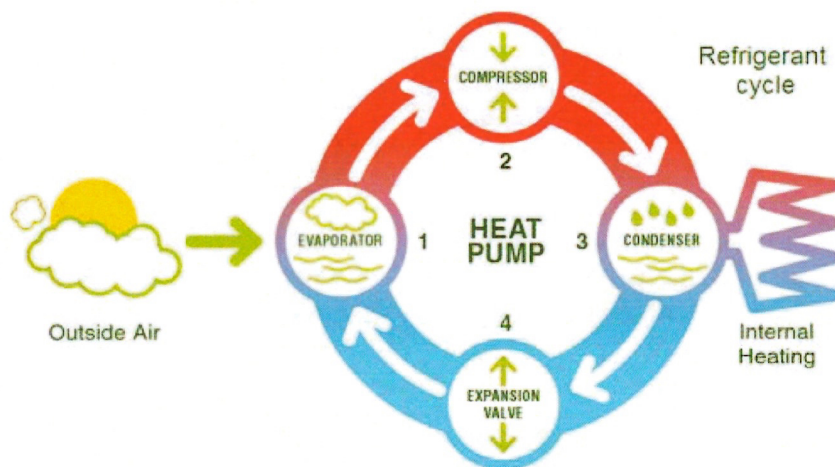

Figure 1: Refrigeration Cycle
The operation of the heat pump is shown in figure 1. A heat pump works on the same principle as a fridge, using a refrigerant fluid which boils at a low temperature. Free energy is taken from the air to boil the refrigerant in the **evaporator coil (1)**, changing it from a liquid to a vapour. This low grade heat is upgraded by the **compressor (2)** increasing its pressure, and consequently its temperature, to a useful high temperature. The heat is transferred to your heating system by the **condenser (3)**, where the refrigerant becomes liquid once again. The liquid refrigerant is then expanded using an **expansion valve (4)** to a low pressure fluid before repeating the cycle.